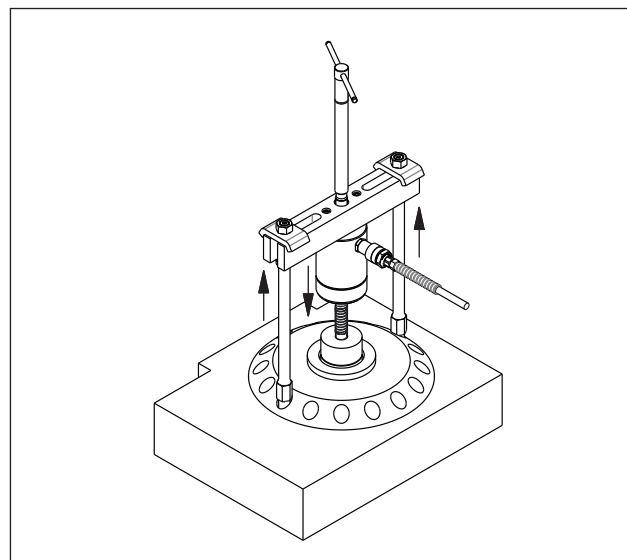

Figure 10, Cross Bearing Puller (typical)
- Install the puller on the bearing, pulley or other item to be removed. Align puller legs. See Figure 10.